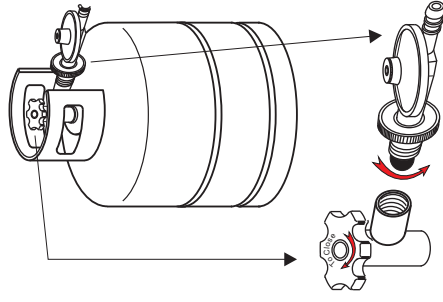

Fig. 7
- When using a cylinder with a gas capacity of 9 kg or greater the cylinder valve will have a horizontal outlet. This has a G5/8 left hand thread. See Fig.7 for connection details